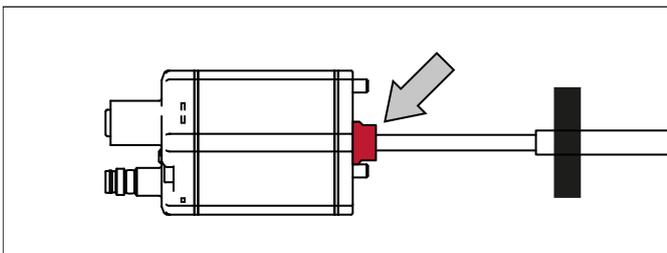

Fig. 34: Remove sealing before inserting into sensor rod HD/HL/HP
- The base unit is mounted by means of three screws. It is the only part that needs to be replaced if servicing is required, i.e. the hydraulic circuit remains closed. Before inserting the base unit into the sensor rod HD/HL/HP, remove the red sealing at the transition between the sensor electronics housing and the flexible sensor rod (Fig. 34). For more information see chapter “4.10.1 Replacement of base unit on the RH5/RFV/RF5 model” on page 67.